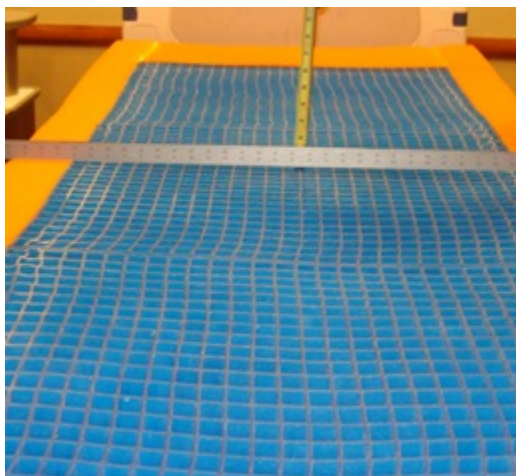

Figure 2: Position straight edge
5. Place a straight edge (at least 35 in. (88.9 cm) long) across the gel from left to right at the sacral region (patient seat section) of the support surface (Figure 2 on page 15).